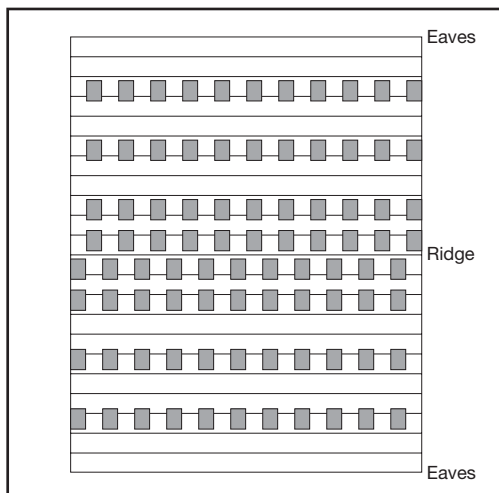

Fig 5 – Loading roof
- Load tiles and fittings out on roof safely, support by battens to avoid slippage and distribute evenly to prevent overloading of roof structure (Figs 5 and 6).